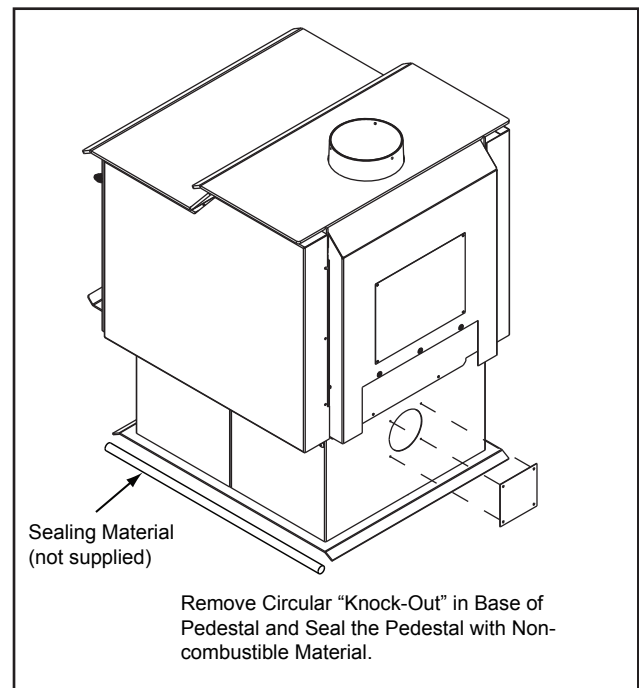

Figure 38.2 - Alternate Floor Installation
1. **Rear:** Remove the access cover on the back of the pedestal and discard. **Figure 38.2.**
If that is the case, follow the instructions for a rear installation install the flex pipe to the rear of the pedestal and remove the circular “Knock-Out” in the base of the pedestal. You must seal off the pedestal with non-combustible material (not supplied). The goal is to seal the pedestal so no room air can leak into the pedestal and to seal for cold air infiltration. **Figure 38.2.**